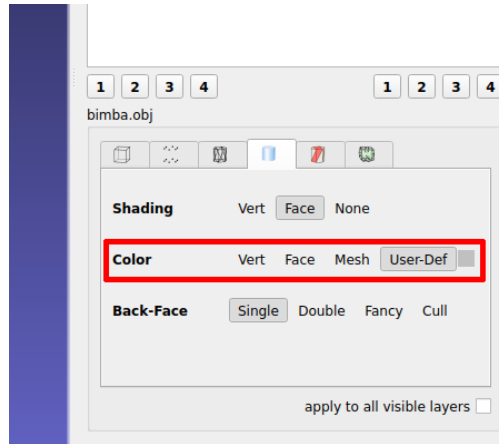
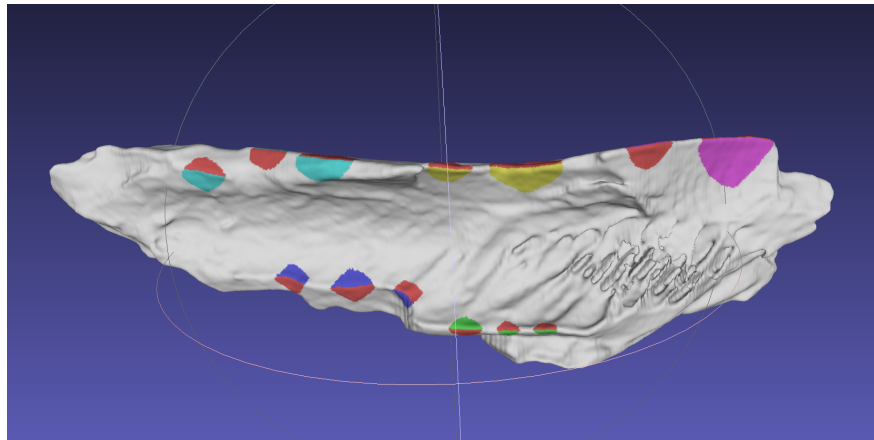

Figure 4: To see the colorization of each measurement patch, it may be necessary to set the mesh coloring to vert, instead of the default user-def.
Figure 5: Meshlab virtual goniometer after taking several measurements along different break curves.
**Note:** If the patch is not colorized (as in Figure 5) after taking a measurement, you may need to change the mesh coloring option to **vert**. This is an option in the right panel in Meshlab, see Figure 4.
The plugin has a feature to allow the user to take measurements along different break curves, and record the break curve number along with the angle measurement. By default, the virtual goniometer starts on break curve #1. After taking possibly several different measurements along break #1, the user can advance to break #2 by clicking the button ➡ on the toolbar, using the shortcut **Ctrl+Shift+N**, or accessing the option through the **Filter->Quality...** menu. This advances the internal break # variable in the Virtual Goniometer, and reports this to the Meshlab log. All future measurements will be for break #2, and will be colored differently on the mesh. After advancing to a new break curve, the colorized patches from previous breaks are grayed out slightly to indicate they are not active break curves. Figure 5 shows the result of taking many